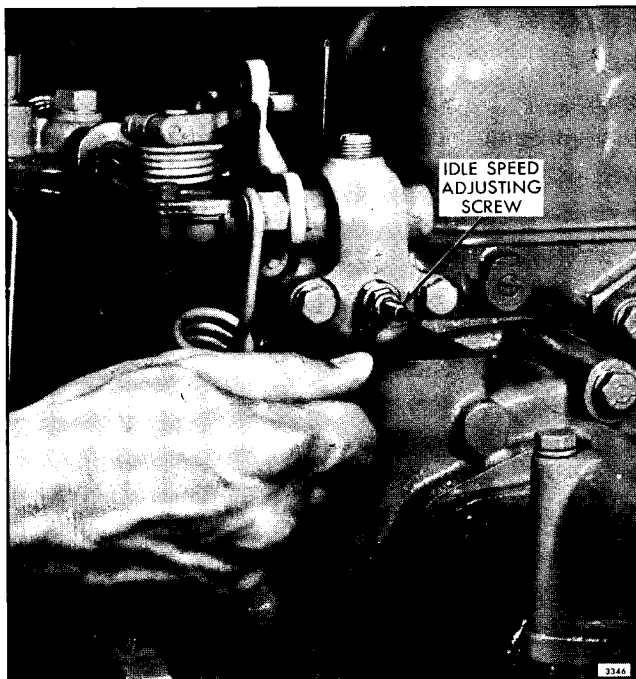

Fig. 3 - Adjusting Idle Speed
1. Start the engine and with stop lever in the RUN position place the speed control lever in IDLE position as shown in Fig. 3.